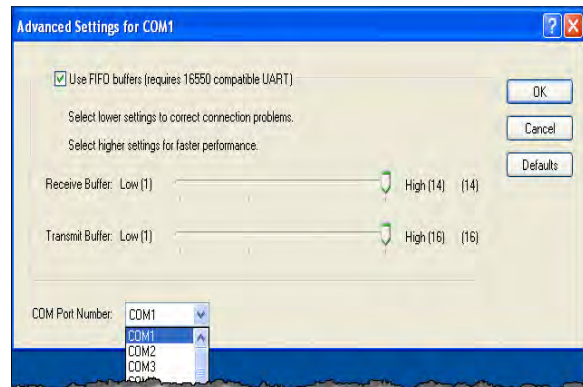

Figure 4
- In the Advanced Settings window, click the down arrow on the **COM Port Number** box and select **COM1**. (Figure 4)